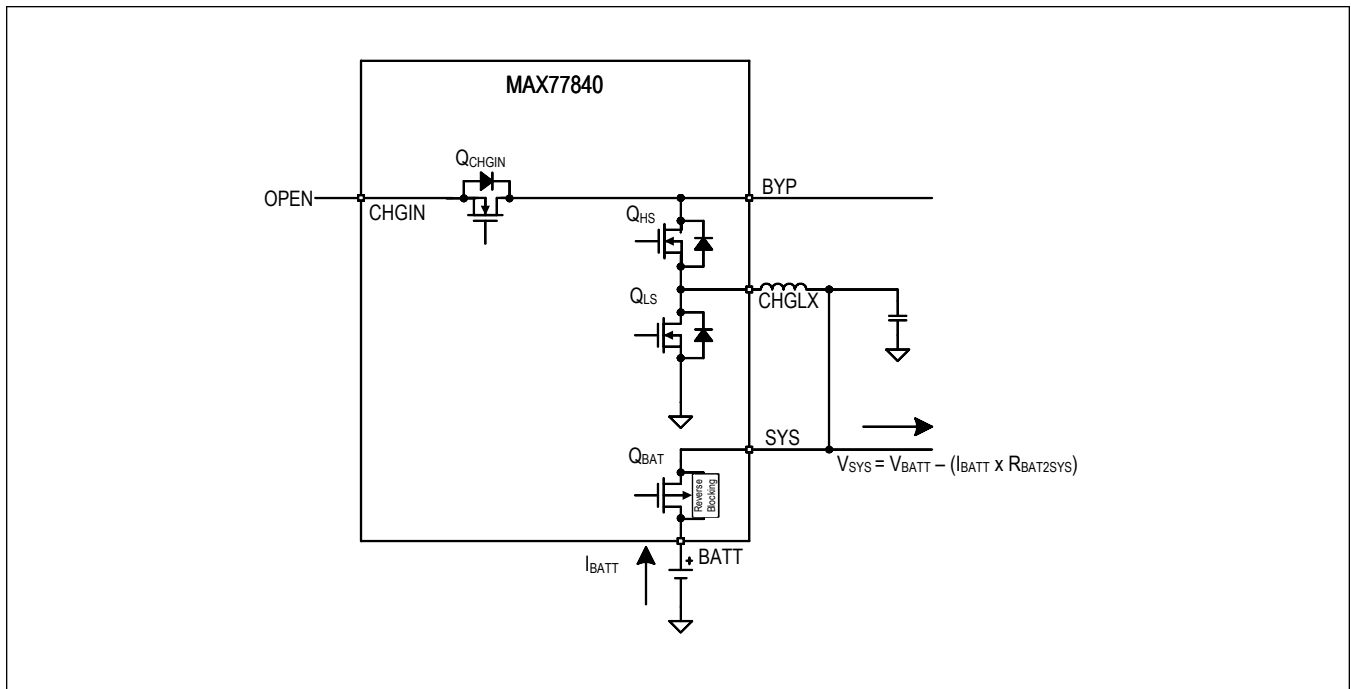

Figure 4. Battery-Only
2. BATTERY-ONLY, MODE = 0x00: The adapter voltage is invalid, outside the input voltage operating range (QCHGIN = off). Battery is connected to power the SYS load (QBAT = on), and Boost is ready to power OTG (Boost = standby), see Figure 4.